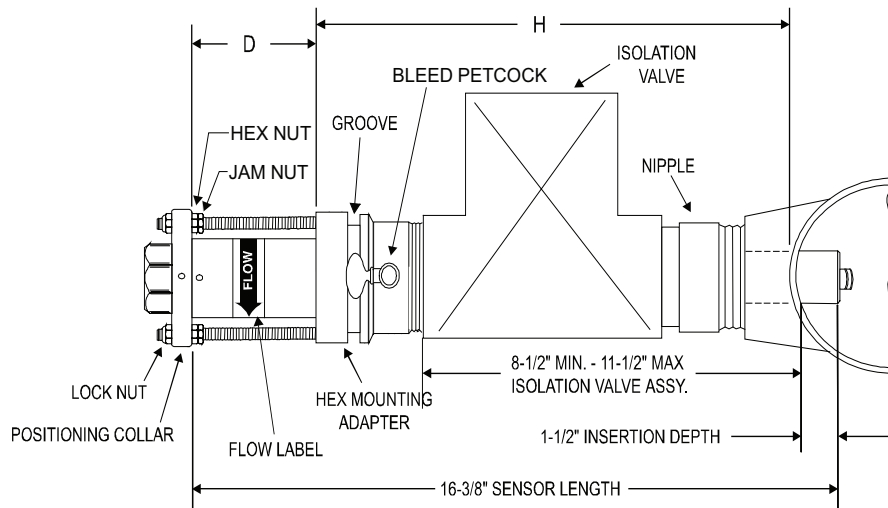

Figure 4: Sensor parts
See Figure 4 for the location or identification of the various parts described in the following procedures.
To calculate the distance (D) between the top of the sensor hex mounting adapter and the bottom of the positioning collar (the top of the hex nut), **ADD** the H dimension, pipe wall thickness, and insertion depth, and **SUBTRACT** the total from the overall sensor length. See the example and formula on the next page, and refer to *Figure 4*.